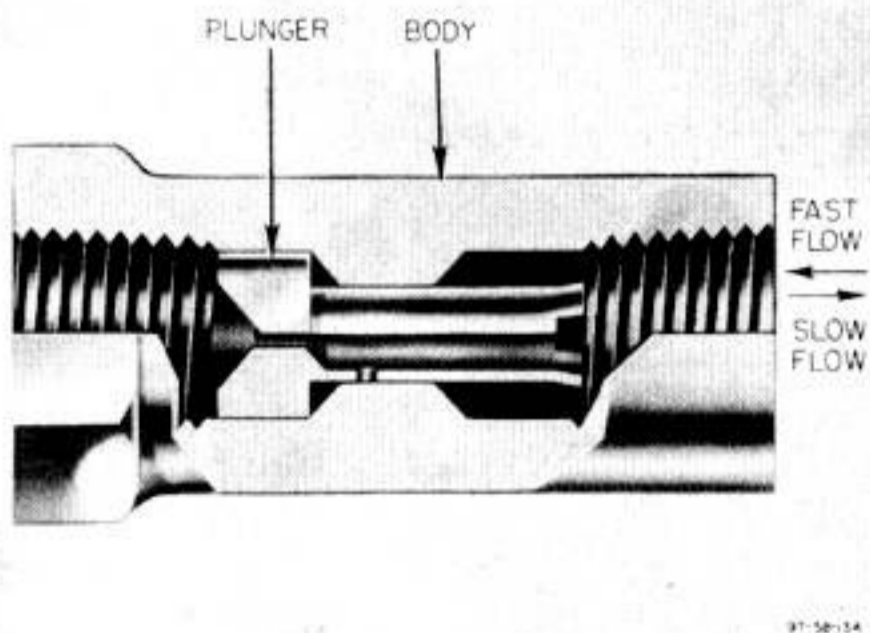

Figure 336—Hydraulic Restrictor Valve
(2) HYDRAULIC SYSTEM RESTRICTOR VALVES. (See figure 336.)—Restrictor valves provide a fixed restricted two-way flow. The faster flow is always toward the hexagonal end. When the flow is toward the hexagonal end, the plunger is forced in that direction far enough to uncover the holes in the plunger, allowing the larger amount of oil to flow. When flow is in the opposite direction the plunger is forced to move back, covering up the holes and restricting the flow in that direction.